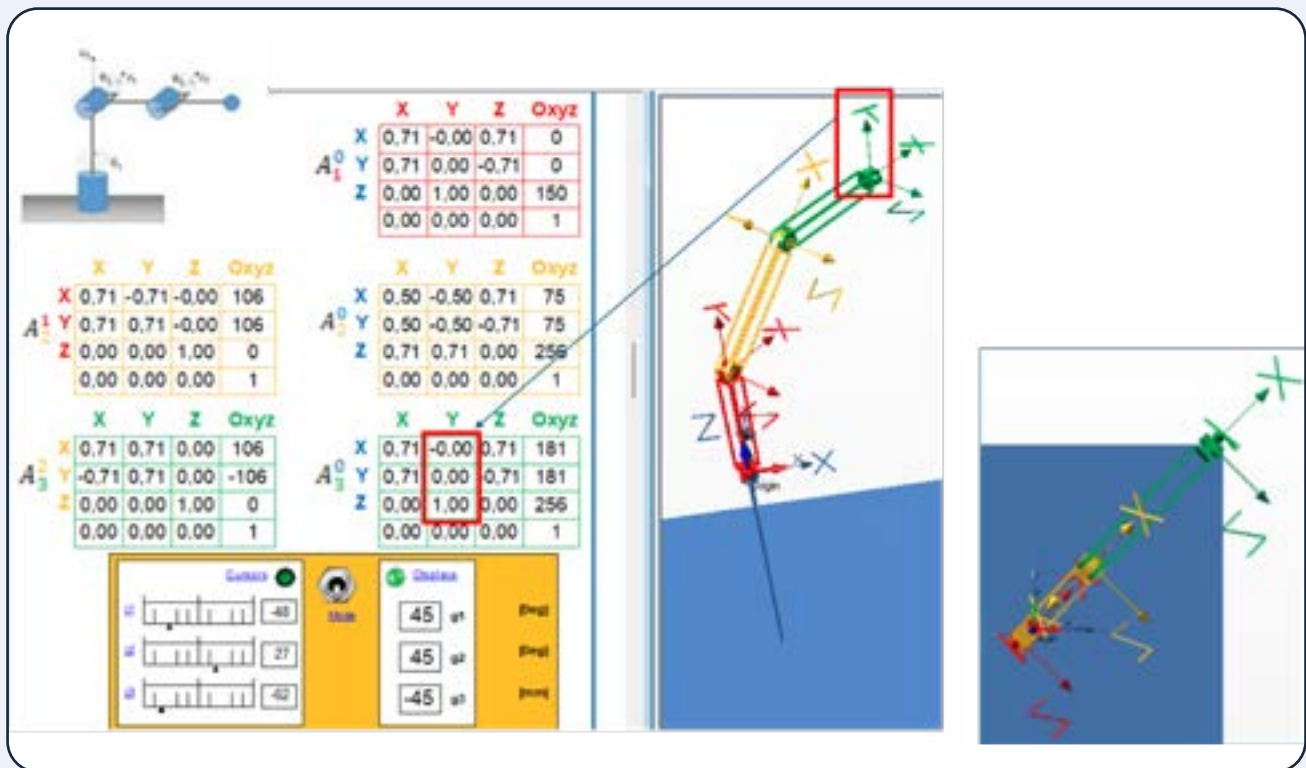

Figure 12 - Third project - DH convention.
The third project (Figure 12) focuses on the implementation of robotic kinematics using the Denavit-Hartenberg (DH) convention within the same integrated simulation framework.